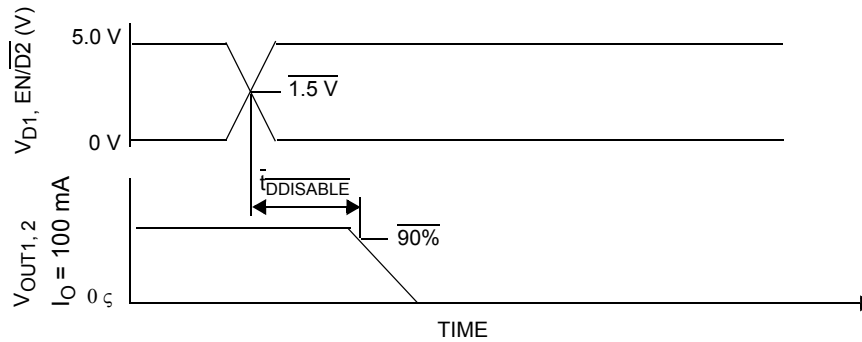

Figure 5. Disable Delay Time
26. \* Disable Delay Time measurement is defined in Figure 5, page 9.